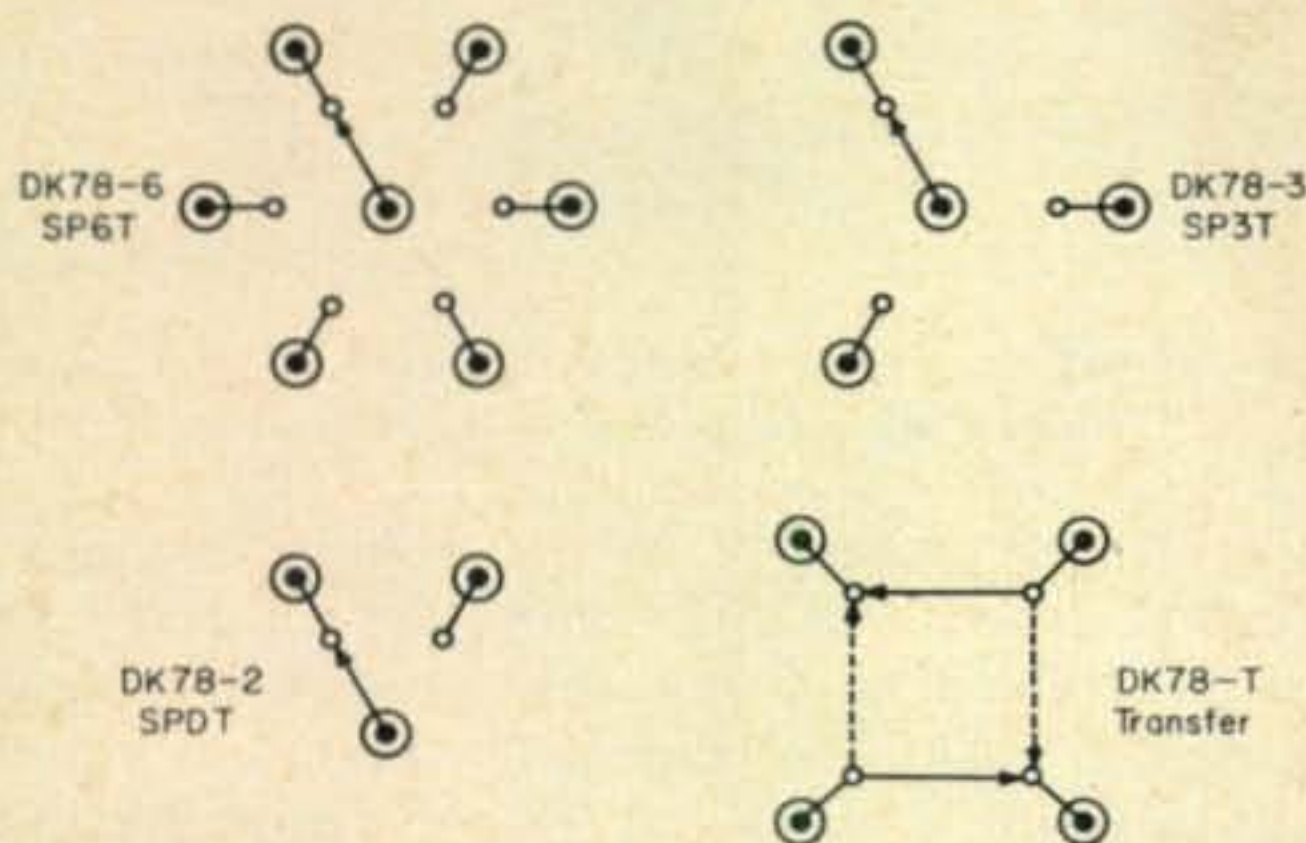

Fig. 1—Configurations available with the Dow-Key DK78 series of manually-operated coaxial switches.
**T**HE latest addition to the line of products put out by the Dow-Key Company is their DK78 series of manually-operated coaxial switches. These are especially designed for the purpose, both electrically and mechanically, and as such are not just adaptations employing wafer-type switches. They are relatively small in size, yet are ruggedly constructed for reliable operation with high current-carrying capacity for handling r.f. power of 1 kw at frequencies up to 500 mc and they have high cross-talk isolation and low v.s.w.r. All the r.f. connectors are mounted in the same plane facing directly out from the rear to facilitate cable connections in a minimum amount of space and without the need of right-angle connectors for doing so. The switches are available in four configurations as shown at fig. 1. These are: s.p.d.t., s.p.3t., s.p.6t. and transfer-type.